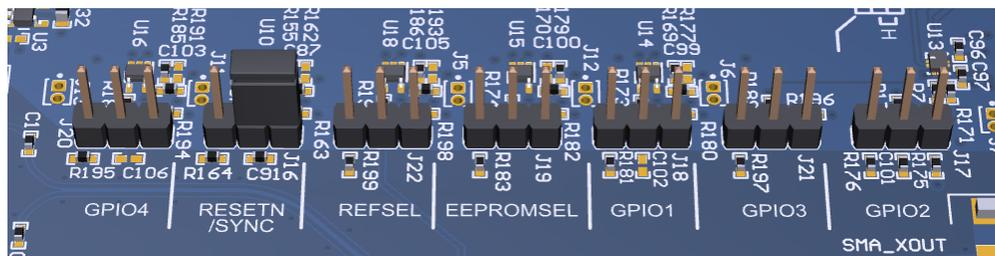
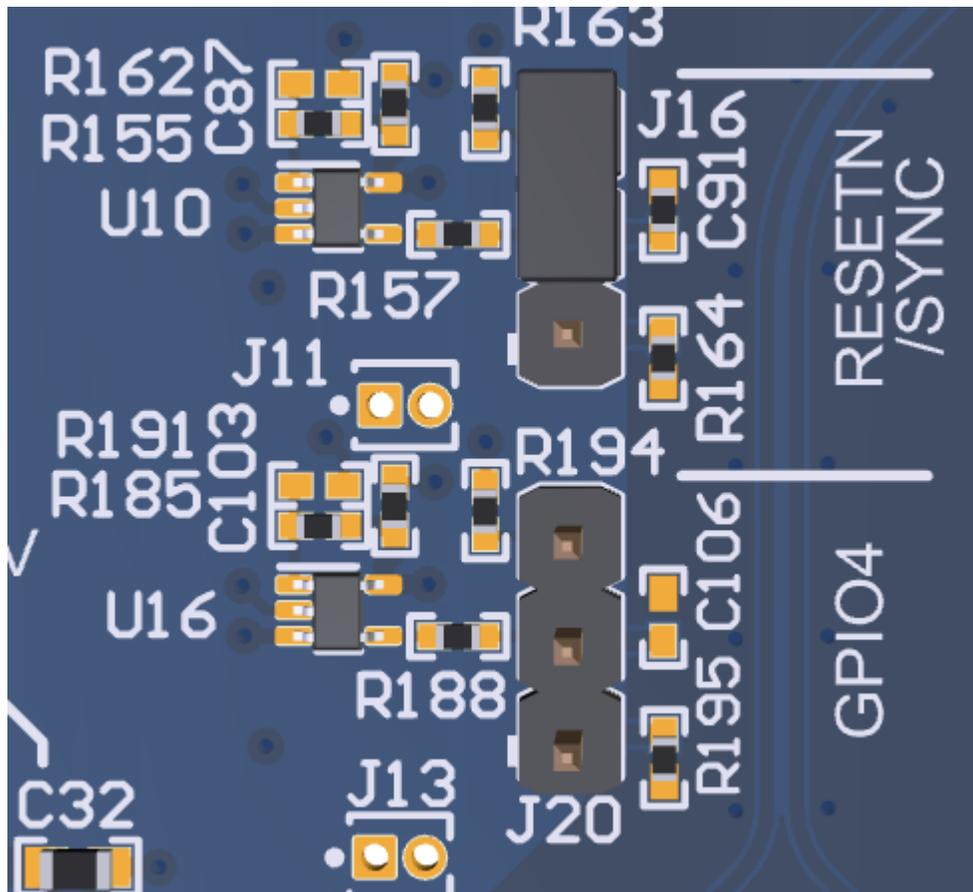

Figure 2-1. Evaluation Module Default, Control Pins
Figure 2-2. Evaluation Module Default, Control Pin Level Shifters
1. Cross-check the default EVM configuration using Figure 2-1. Ensure the correct position of the control pin signals and the connections to the device and the input reference.
The relevant sections of the evaluation module are shown in Figure 2-1 and Figure 2-2.